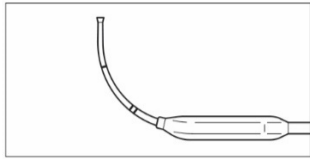

Figure 6: Frontal Bend
- **Frontal Sinuses:** When treating the frontal recesses, a large radius curve similar to a frontal sinus seeker (Figure 6) is recommended. This is the shape/curve provided in the package.